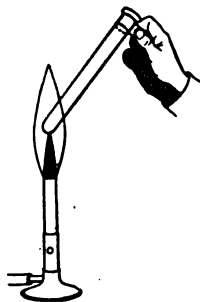

Fig. 7.
2. Use a t.t. holder of wood or metal (paper folded several times serves as well), and hold the tube in the middle of the flame of a Bunsen burner, 5 or 6cm above the lamp, at an angle of about  $45^\circ$  (Fig. 7). Agitate the liquid while it is heating by slightly shaking the tube.